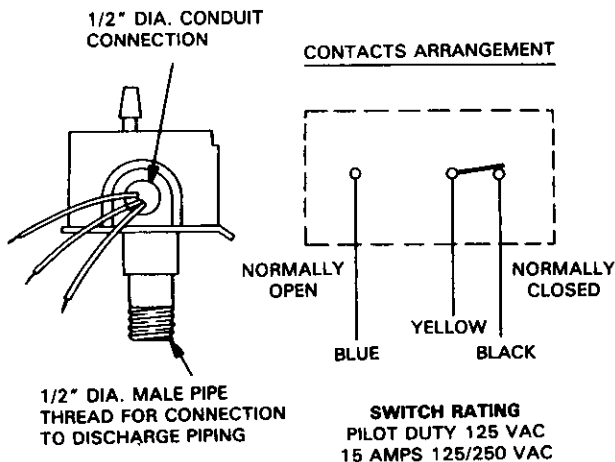

Figure 1-14. Pressure Switch
5. Pressure Switch (Model PS-1) — The pressure switch is used to perform interlock functions, such as sounding alarms or shutting down electrical motors or other equipment only. It is actuated only by pressure of the extinguishant when discharging through the system piping. (See Figure 1-14).